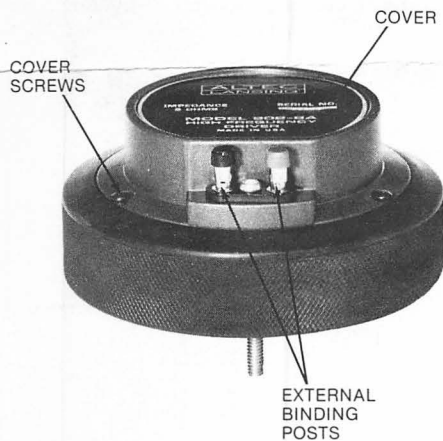

Figure 1. Typical Driver
1. Remove leads from external binding posts (see Figure 1). Note electrical phasing (polarity) as leads are removed.
3. Remove screws securing driver cover (see Figure 1).